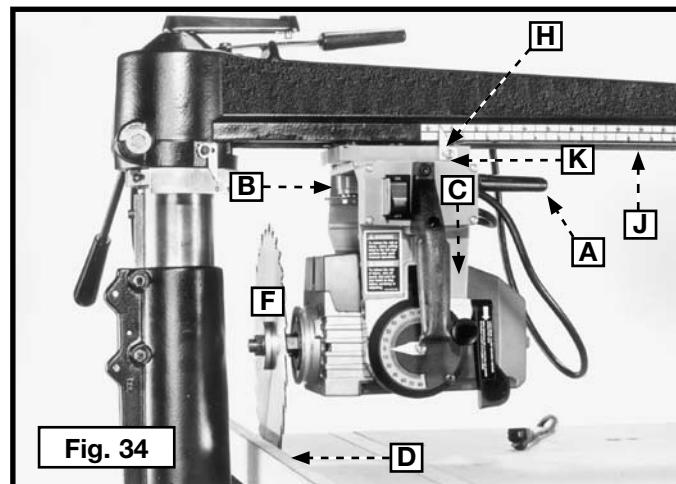

Fig. 34
- Loosen the yoke clamp handle (A) Fig. 34. Release the yoke index by pressing the release lever (B) up or down. Rotate the cuttinghead (C) to the in-rip position (Fig. 34). Tighten yoke clamp handle (A).
- Position the fence (D) Fig. 34 at the rear of the table.
- Loosen the cuttinghead clamp knob (C) Fig. 34. Slide the cuttinghead to the rear of the track arm until the saw blade (F) is flush against the fence (D).
- Tighten the cuttinghead clamp knob. Adjust the pointer (H) Fig. 34 to the "zero" mark on the lower scale (J) by loosening the screw (K). Tighten the screw when finished.